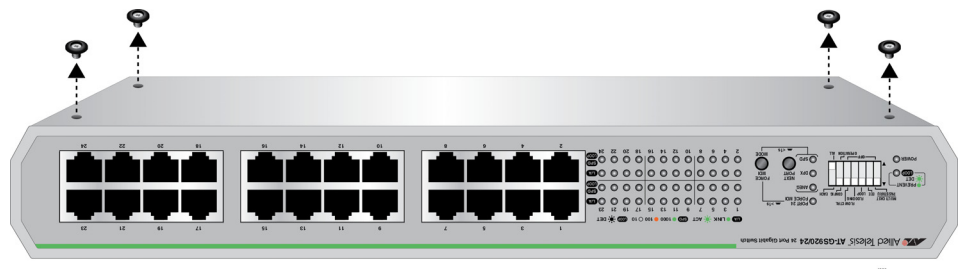

Figure 46. Removing AT-GS920/24 Rubber Feet
1. If the rubber feet were previously installed, remove them as shown in Figure 46.